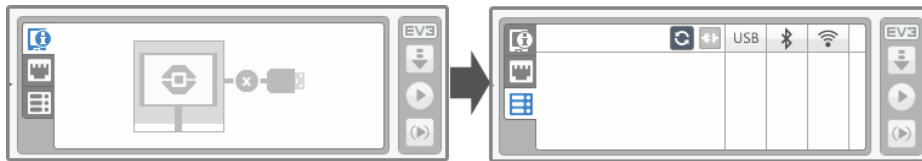

Figure A-2: Check available bricks.
5. In the lower-right corner of the software window of the Hardware page, click the Available Bricks tab. After doing so, click the Refresh button (see Figure A-2).
6. Now the EV3 brick is connected to your preferred wireless network! Make sure that your computer is connected to the same network and launch the EV3 software and open or create a project. Refresh the available brick on the Hardware page (see Figure A-2 in the Bluetooth section of this appendix); you will see the EV3 brick that you just connected to the wireless network.